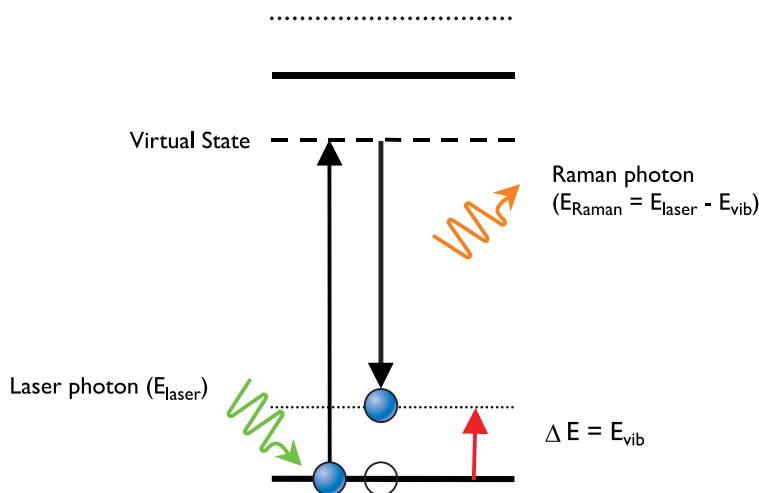

Fig. 1: Energy diagram showing the basis of IR (red arrow) and Raman (other arrows) spectroscopy.
The theoretical background of Raman scattering is shown in fig. 1. A laser photon excites the material to a state with a very limited lifetime (virtual state). When the material returns to its ground state, it loses a well-defined amount of energy to a vibration in the material. The remaining energy, i.e. the difference between the energy of the laser light and the energy involved in the vibration, is released in the form of a Raman photon.
Raman and infrared (IR) spectroscopy are complementary analytical tools. In IR spectroscopy, a material is exposed to a spectrum of IR radiation from which it absorbs only specific energies. In Raman spectroscopy excitation is performed at a single wavelength. The energy difference between the excitation radiation (green arrow in fig. 1) and the Raman radiation (black arrows in fig. 1) is in the same range as the energies absorbed in IR spectroscopy (red arrow in fig. 1). However, different bonds are visible for the two techniques. In general, IR spectroscopy is especially suitable for characterizing materials that contain polar bonds, whereas Raman spectroscopy is more suited for studying apolar bonds.